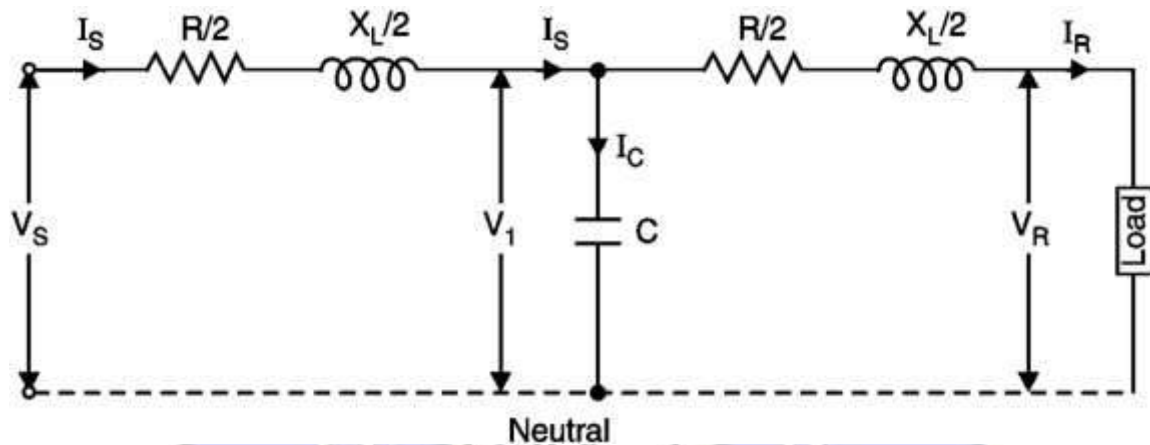

Fig. 29:
- In this method, the whole line capacitance is assumed to be concentrated at the middle point of the line and half the line resistance and reactance are lumped on its either side as shown in Figure 29.